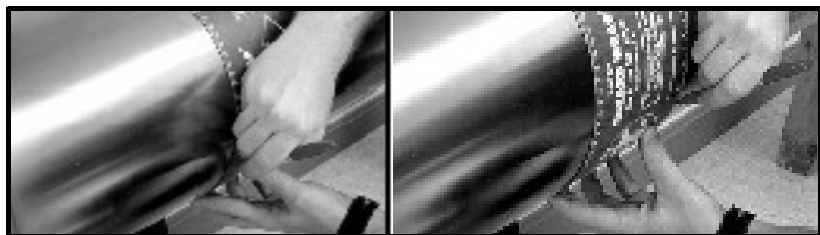

Figure 1-4: Measuring and Marking Circumference Lines
3. Measure the outside diameter (OD) of the pipe using a tape measure or the supplied layout wrap. Using the entire layout wrap, mark two circumferential lines along the edges of the wrap, as shown in Figure 1-4 below.